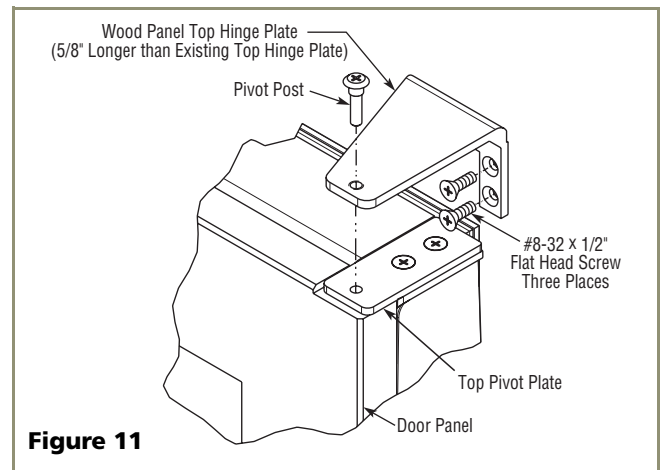

Figure 11
2. Install the new Replacement Top Hinge onto the unit (see **Figure 11**).